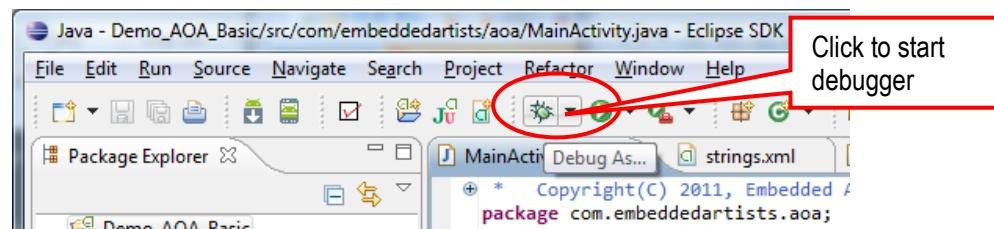

Figure 28 - Start debugger
2) Click the Debug as... button. See Figure 28